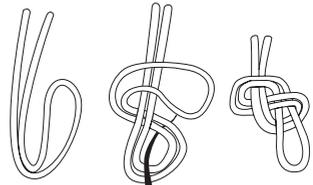

Figure 4
2. Once the first person/s have reached the ground and disconnected from the equipment, the next person may hook onto the trailing rope (which subsequently becomes the rescue rope) using the carabiner at the end (or making a figure of 8 knot, see figure 4, if the equipment length is not site specific depending on rope length and descent height).